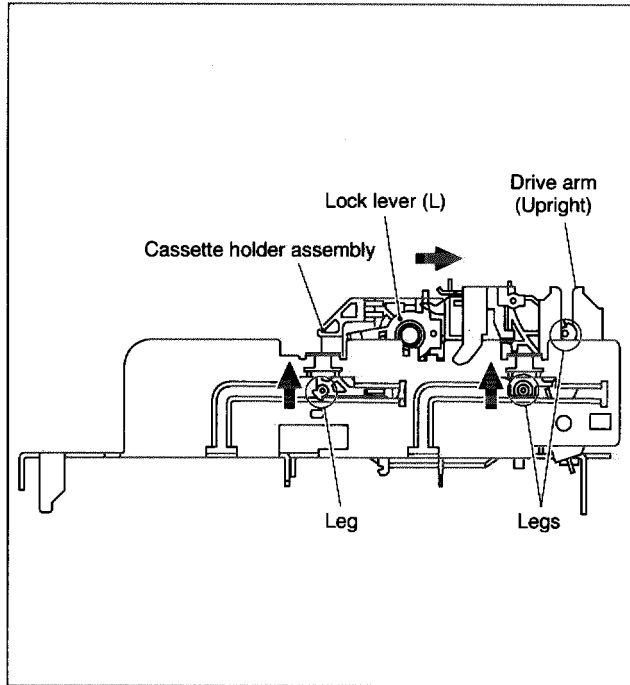

Fig. 2-2-4
(4) While swinging the lock levers (R) and (L) of the cassette holder assembly toward the front, slide the cassette holder assembly until its legs come to where the guide rail and the roller cam assembly have been removed (so that the drive arm is upright). (See Fig.2-2-4.)